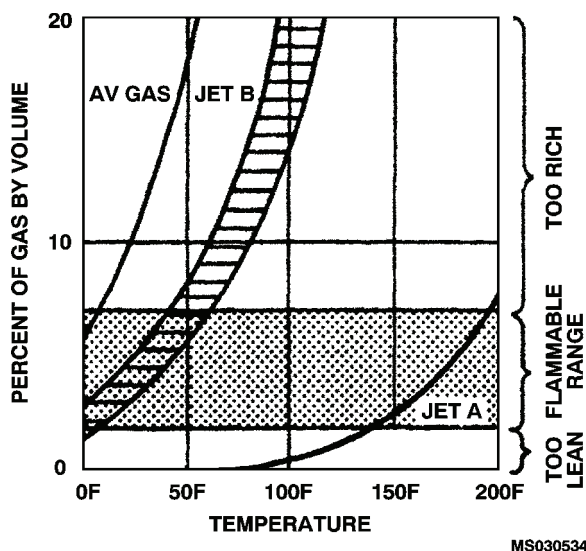

Figure 2-1. Vaporization Characteristics.
(1) Turbine fuel identification. Because turbine fuels are not dyed, there is no on-sight identification for them. They range in color from a colorless liquid to a straw-colored liquid, depending on age or the crude petroleum source.
(2) Turbine fuel volatility. One of the most important characteristics of turbine fuel is its volatility. A high volatility is desirable to aid cold-weather starting and to make aerial restarts easier and more sure. Low volatility is desirable to reduce the possibility of vapor lock and to reduce fuel loss by evaporation. Figure 2-1 shows the vaporization characteristics of aviation fuels at atmospheric pressure.
(1) AVGAS identification. AVGAS is colored for purposes of identification. A change in color usually indicates contamination with another product or loss of fuel quality. Table 2-2 shows various AVGAS grades and their identifying colors.
(2) AVGAS volatility. Volatility is a measure of the tendency of a liquid to vaporize. AVGAS is a complex blend of volatile hydrocarbons that have a wide range of boiling points and vapor pressures. It is blended to form a straight chain of boiling points. This is necessary to obtain the required starting, acceleration, power, and fuel mixture characteristics for the engine. Vaporization characteristics are shown in figure 2-1.